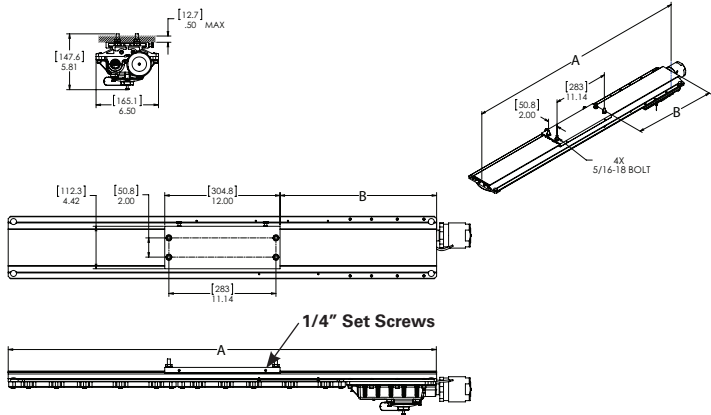

Figure 3. ZP1057MTK Back Mount Installation
- 1. For back mount, use the bracket as a template, mark and drill holes into the mounting surface and use supplied 5/16" bolts (see Figure 3).
- 3. It is strongly suggested to use two (2) qualified tradespeople to proceed with the final mounting of the fixture. This is recommended to avoid any personal injury or damage to the fixture.
- 4. Place the four (4) 5/16" bolts through the mounting plate and tighten evenly to the support structure. Minimum torque 138 in.-lbs. (15.6 N-m).
- 7. Tighten the four (4) 1/4" set screws on the slide bracket until they bottom. Torque to 78 in.-lbs. (8.8 N-m).